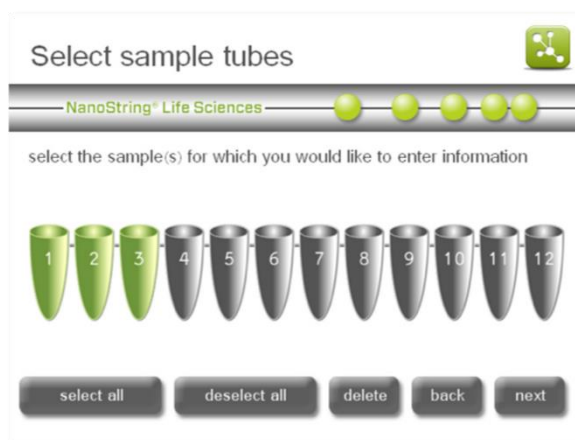

Figure 76: The 'Select sample tubes' screen.
10. Select the **samples** field. The 'Select sample tubes' screen will appear (**Figure 76**).